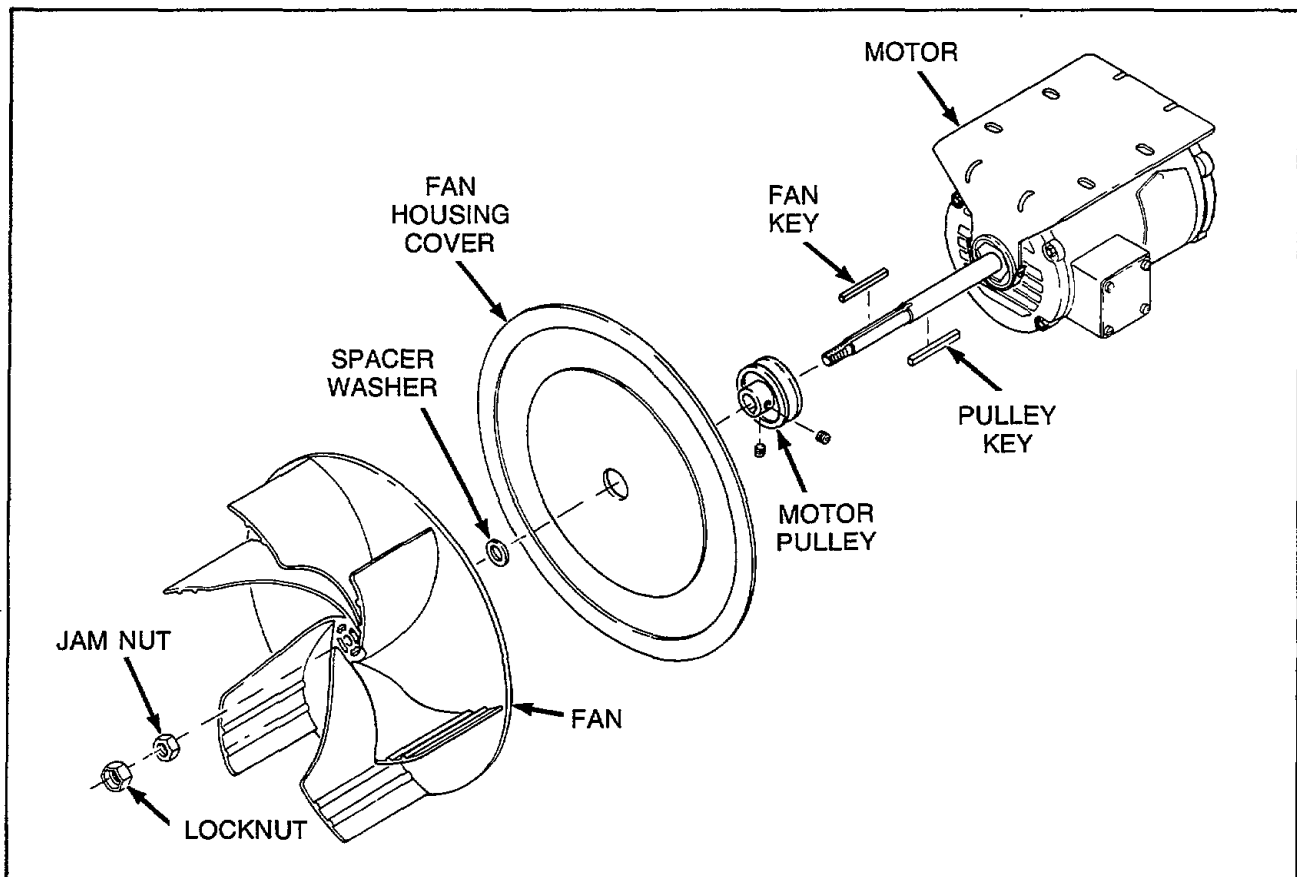

Figure 28
- l. Remove locknut and jamnut holding fan on motor shaft, *Figure 28*, and pull fan off motor shaft.
- m. Remove spacer washer from motor shaft, *Figure 28*.
- n. Remove fan housing cover from motor shaft, *Figure 28*.